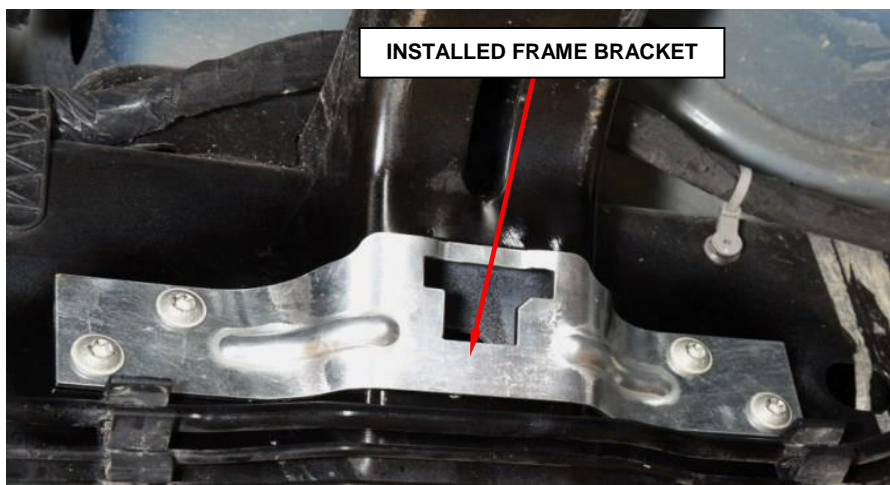

Figure 22 – Frame Bracket
48. Install the frame bracket and tighten the bolts to 26 N·m (19 ft. lbs.). (Figure 22).